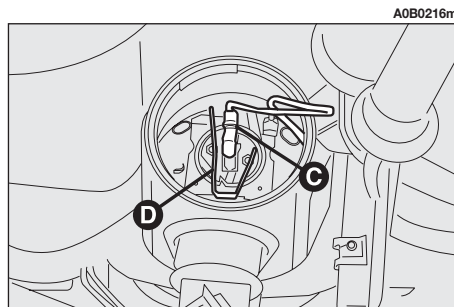

fig. 34
- Withdraw the supply cable terminal (**C-fig. 34**).
- Release the bulb stopper (**D-fig. 34**) and remove the bulb.
— Fit a new bulb making the tabs of the metallic part coincide with the grooves in the lamp lens and hook the bulb stopper (**D-fig. 34**).
— Re-connect the supply cable terminal (**C-fig. 34**).